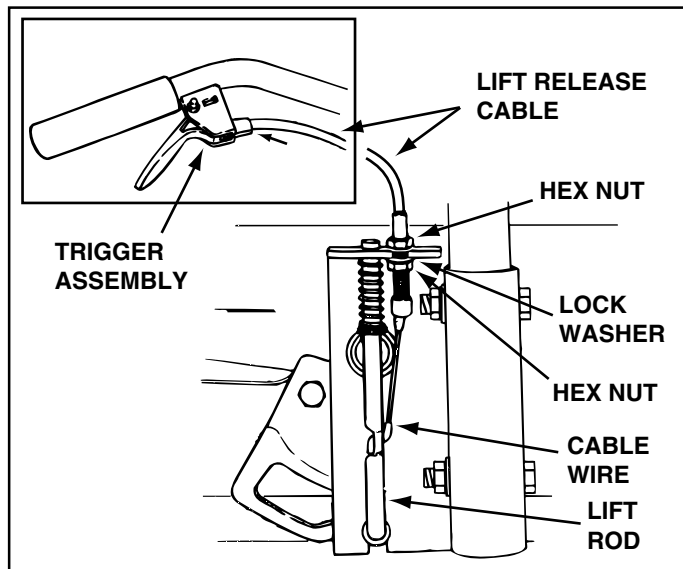

FIGURE 24 RIGHT SIDE VIEW
- Push the lift handle down into the locked position. Insert the end of the cable wire into the hole in the lift rod. Place the threaded fitting into the slot in the lift bracket, with one hex nut above and one hex nut and the lock washer below the slot. Tighten the nuts, adjusting them to eliminate slack in the cable wire. See figure 24. Refer also to the Service and Adjustments section on page 20 in this manual. **HINT:** For easier assembly of the lift release cable, tilt the snow thrower forward onto the spiral auger.